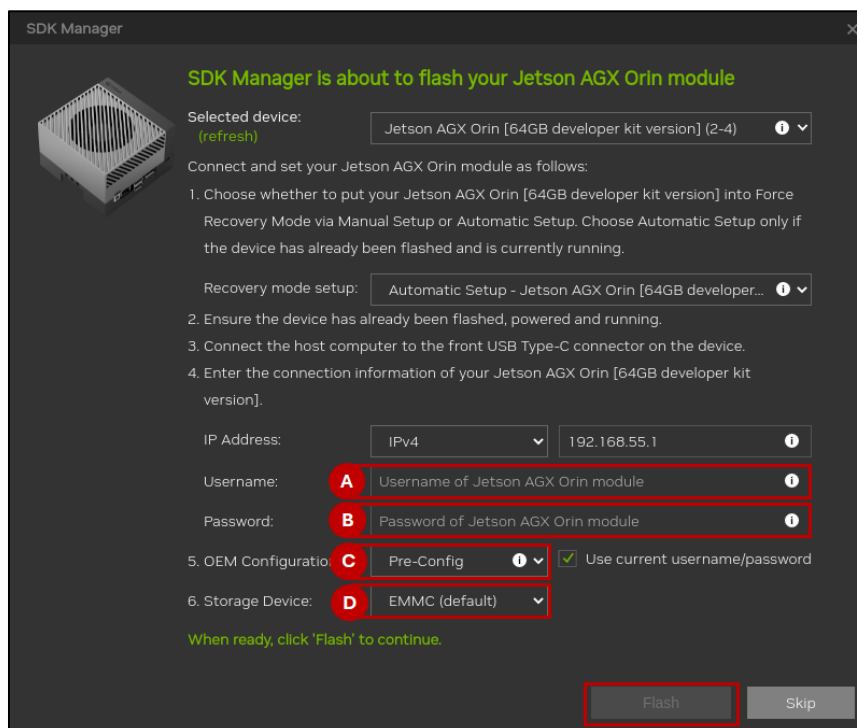

Figure 6.10. SDK Manager
10. When prompted for the flash setup, enter the desired username to access the AGX Orin system, see letter (A) in Figure 6.10, along with the password at (B). Select **Pre-Config** from the dropdown at (C) and **EMMC** as the storage device at (D). Then, click **Flash** to proceed.